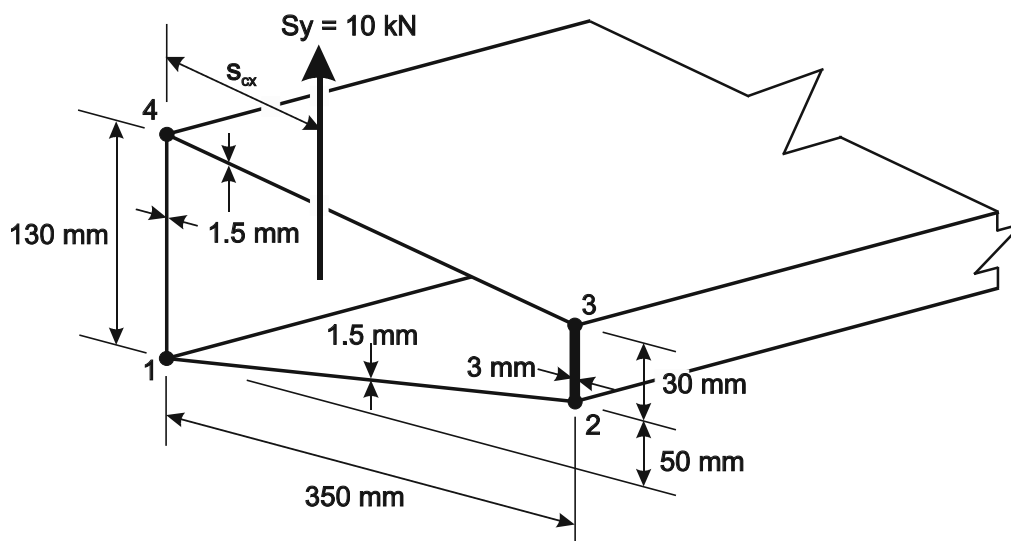

Figure 2: Thin walled beam with applied shear force
- The thin walled closed beam section of Figure 2 is subjected to only a vertical shear force $S_y = 10\text{ kN}$ applied at the shear centre. Calculate the shear flow distribution and plot it. Then go on to determine the position of the shear centre.